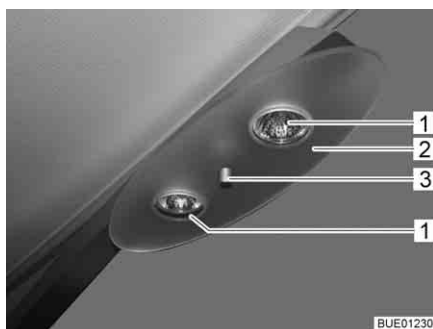

Fig. 224 Halogen ceiling lamp
- Unscrew retaining nut (Fig. 224,3) and remove cover plate (Fig. 224,2).
- Remove halogen bulb (Fig. 224,1).